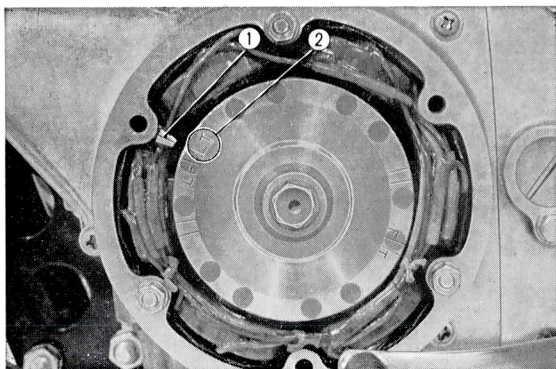

Fig. 3.22 Align the LT mark.
① Index mark    ② "LT" mark
- (2) Position the left piston to top-dead-center by aligning the "LT" mark on the generator rotor to the index mark on the stator. (Refer to Fig. 3.22)